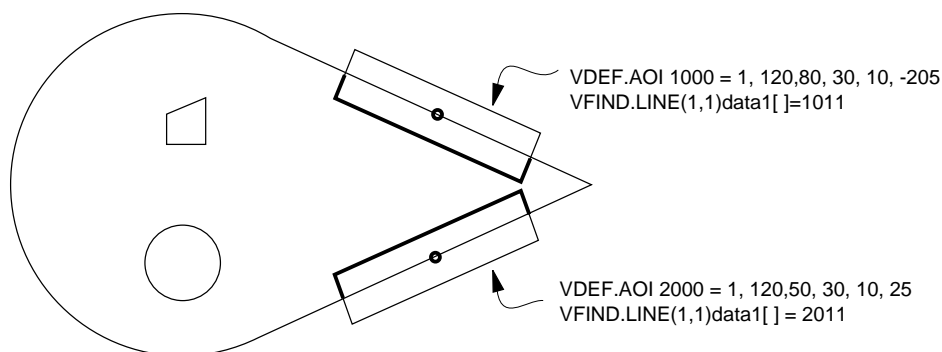

Figure 10-11. Line Finder Example
**Figure 10-11** shows the tool placement for the preceding example.
For this inspection we'll use the point found by the two VFIND.LINE instructions in our previous example (Figure 10-11). Using this point (x,y) we'll place an area-of-interest window that just encompasses the sample object.